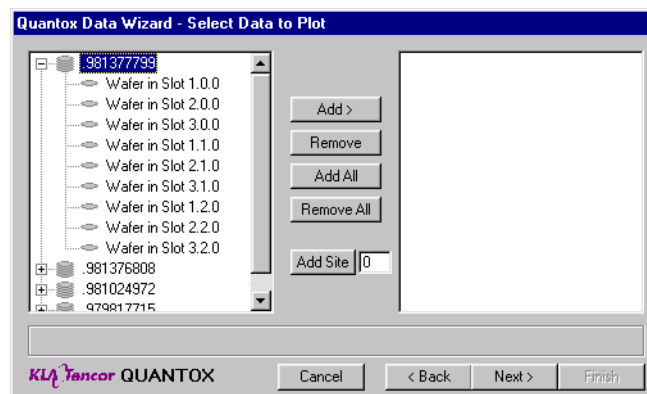

Figure 6-15: Select Data to Plot Dialog Box
4. When finished selecting chart options, click Next to open the Select Data to Plot dialog box (Figure 6-15).